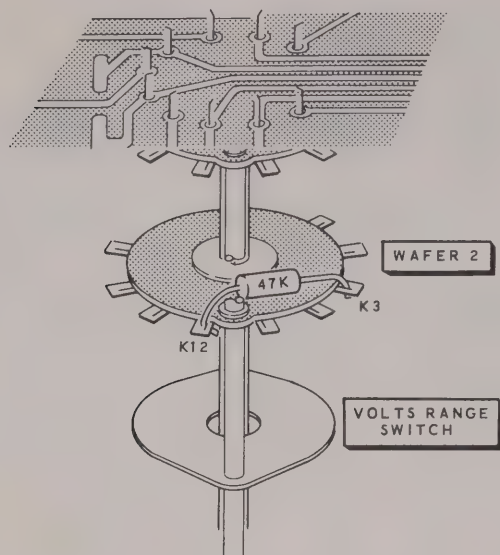

Figure 3
1. ( / ) Connect the positive test lead of the DC voltmeter to lug 3 on wafer 2 of VOLTS Range switch K. See Figure 3.
- 1A ( / ) Set the Solid State VOM test probe switch to the DC position; then touch the tip of the probe to lug 12 on wafer 2 of VOLTS Range switch K. (See Figure 3.) Carefully observe the meter reading on the 5 volt scale.